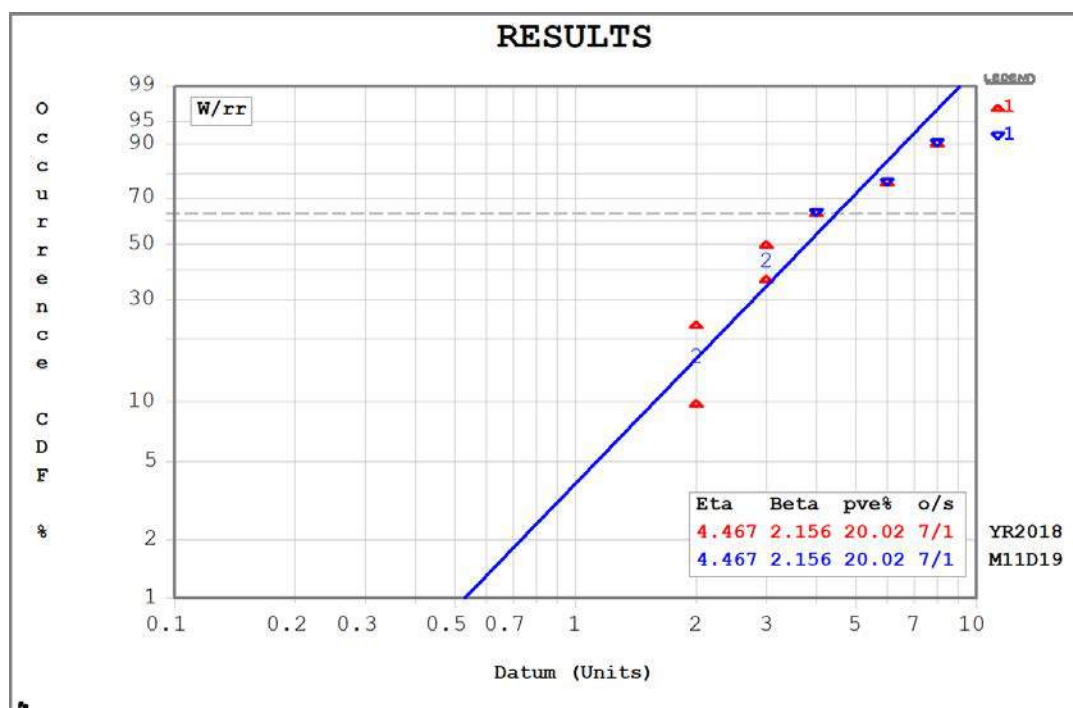

Figure 4: Weibull Plot Using “x2” After Data Values “2” and “3” for Set #2
- D. At the Main Screen, select Open/Import. Load file **PlayTIME-A-Section-II-B.w**. For this 2nd data set (same data values as set 1), repeated values such as “3” and “2” are entered with only one data entry each by changing the “x1” to “x2”. Select the plot to enlarge. Your plot should resemble Figure 4 below. Same solution for both data sets! A shortcut way to enter repeated values is with the frequency value after the separator “x”. Select on the plot or use the <ESC> key to return to the Main Screen.